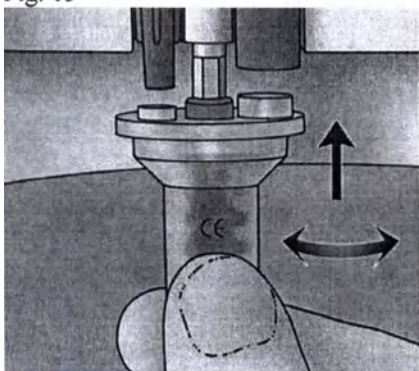

Fig. 16
- Since the locking lever of the Penta 3 cartridge snaps into a fully open position, only one hand is required to change the mixing tip (Fig. 16).